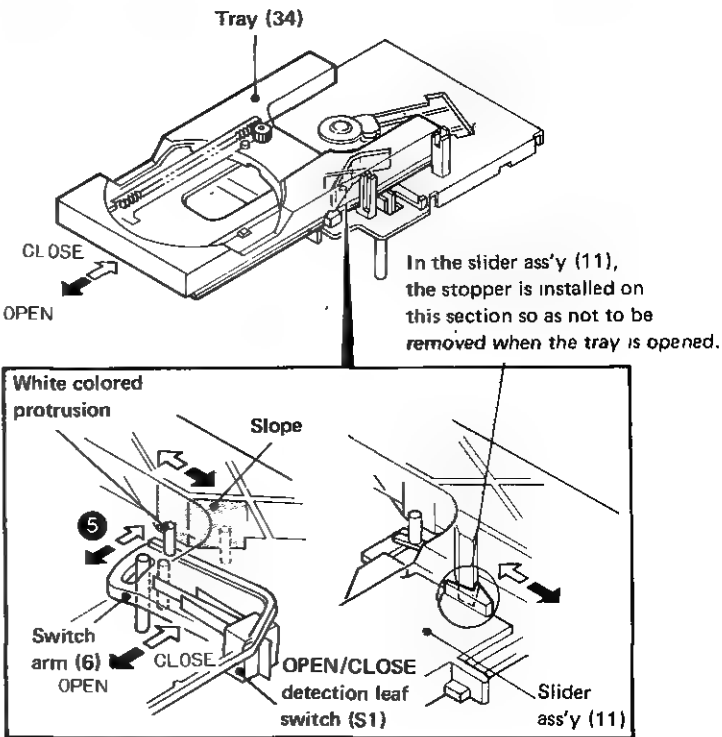

Fig. 4 Each limit switch when opening/closing the tray
Fig. 4 shows the condition when the tray is completely opened. The tray is "sloped" as shown in the figure. When the tray moves in the direction of the black arrow ⑤ OPEN direction, the white protrusion climbs the "slope" to short the OPEN/CLOSE detection leaf switch(S1) in the reverse direction of the STOP condition, then informs the microprocessor that the OPEN operation has completed and to stop the rotation of the loading DC motor(43).